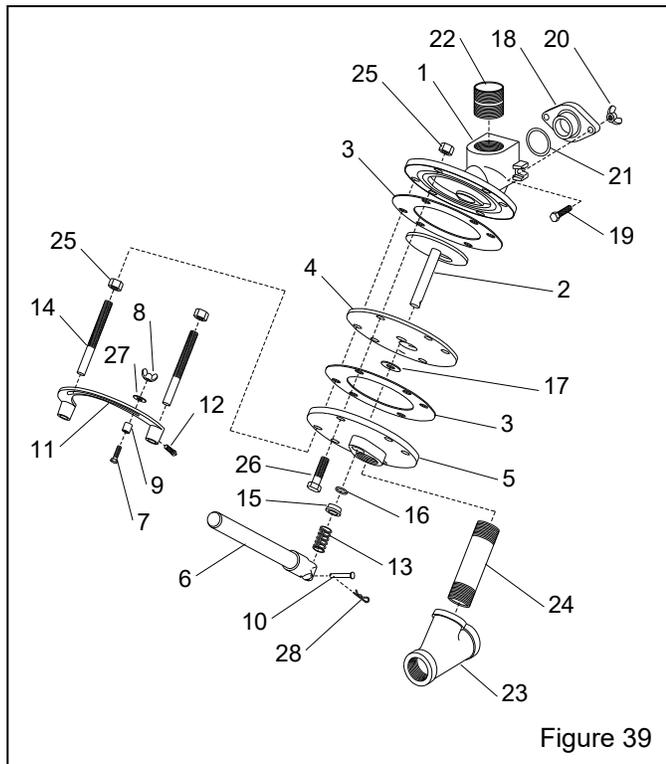

Figure 39
9.6 FSV Media Metering Valve, Figure 39